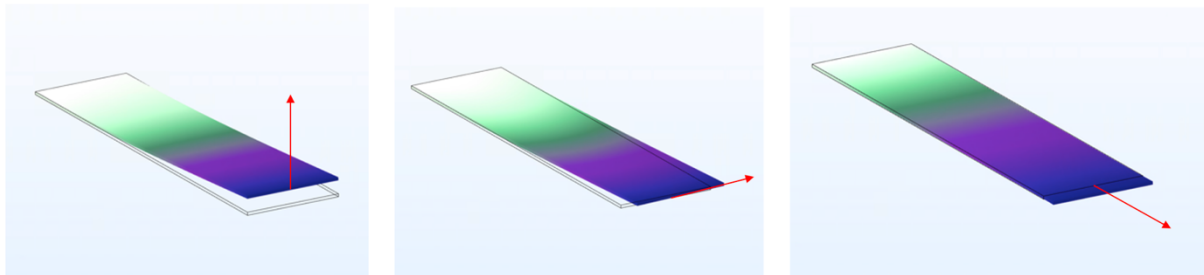

Figure 1: The three first vibrations modes of a blade with a point mass at its extremity.
**Context:** We study the vibrations modes of blade samples in two different materials: stainless steel ( $E_{ss} = 200$  GPa) and titanium ( $E_{Ti} = 114$  GPa). For each material, three sample blades with different thicknesses are tested: 300  $\mu\text{m}$ , 350  $\mu\text{m}$  and 400  $\mu\text{m}$ . Their length is 40 mm and their width is 10 mm. A mass  $M = 15$  g is located at the tip of each blade. We will **calculate analytically** the **three first modes of vibration** along the directions X, Y and Z (Figure 1) and compare with the FEM results given by the **eigenfrequency** analysis for the **three stainless-steel sample blades**. Then we calculate the maximum **von Mises stress** for each of the **six sample blades** when a displacement of the tip of  $f = 10$  mm is imposed (Figure 2). Note that the results obtained here will be used for fatigue tests on a later exercise.